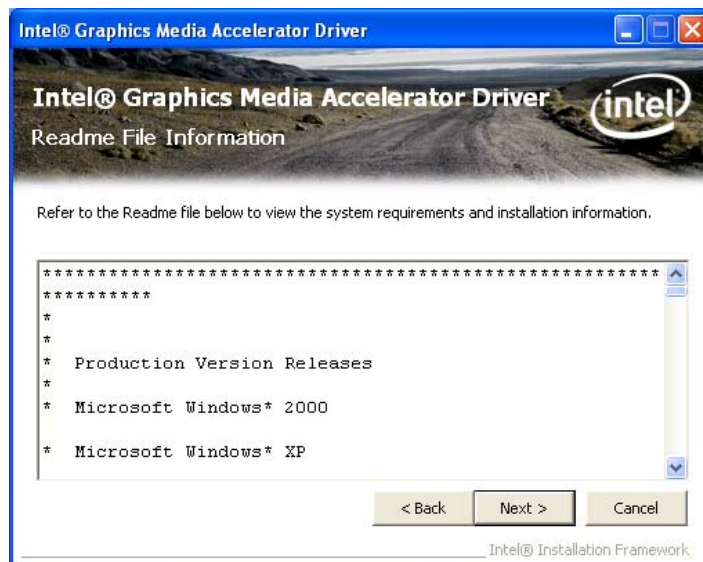

Figure 7-12: VGA Driver Read Me File
Step 11: The Read Me file in **Figure 7-12** appears.